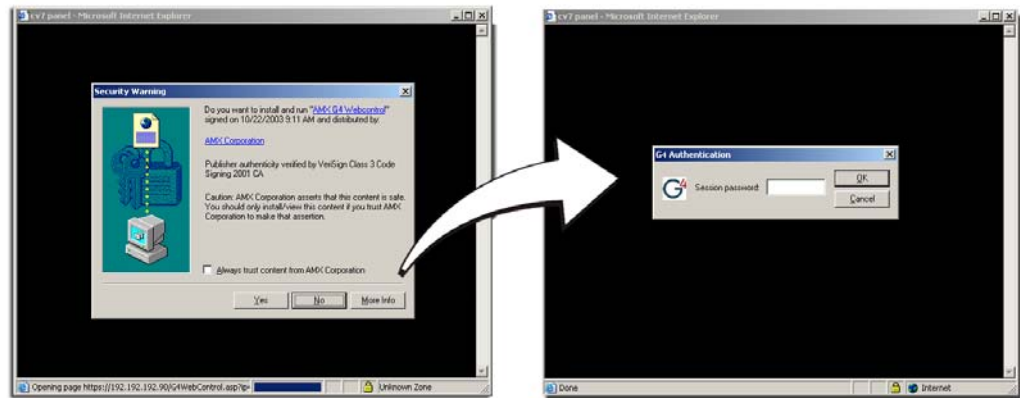

FIG. 75 Web Control VNC installation and Password entry screens
6. Click on the G4 panel name link associated with the target panel. A secondary web browser window appears on the screen (FIG. 75).
- 10.** Enter the Web Control session password into the *Session Password* field (FIG. 75). *This password was previously entered into the Web Control Password field within the G4 Web Control page on the panel.*